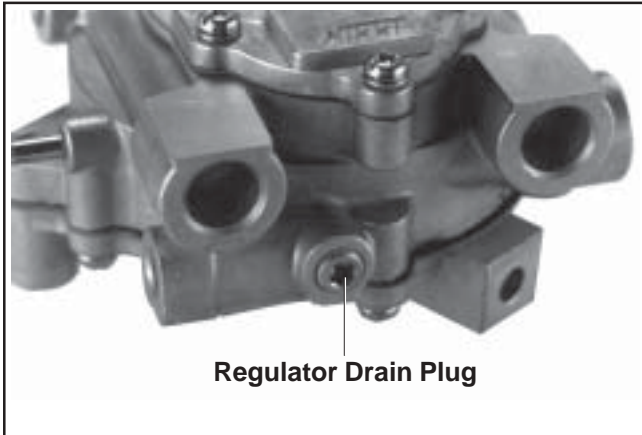

Figure 5A-23. Regulator Drain Plug (Some Models).
3. Remove the 1/8" pipe plug from bottom of regulator and drain any accumulated deposits. See Figure 5A-23.